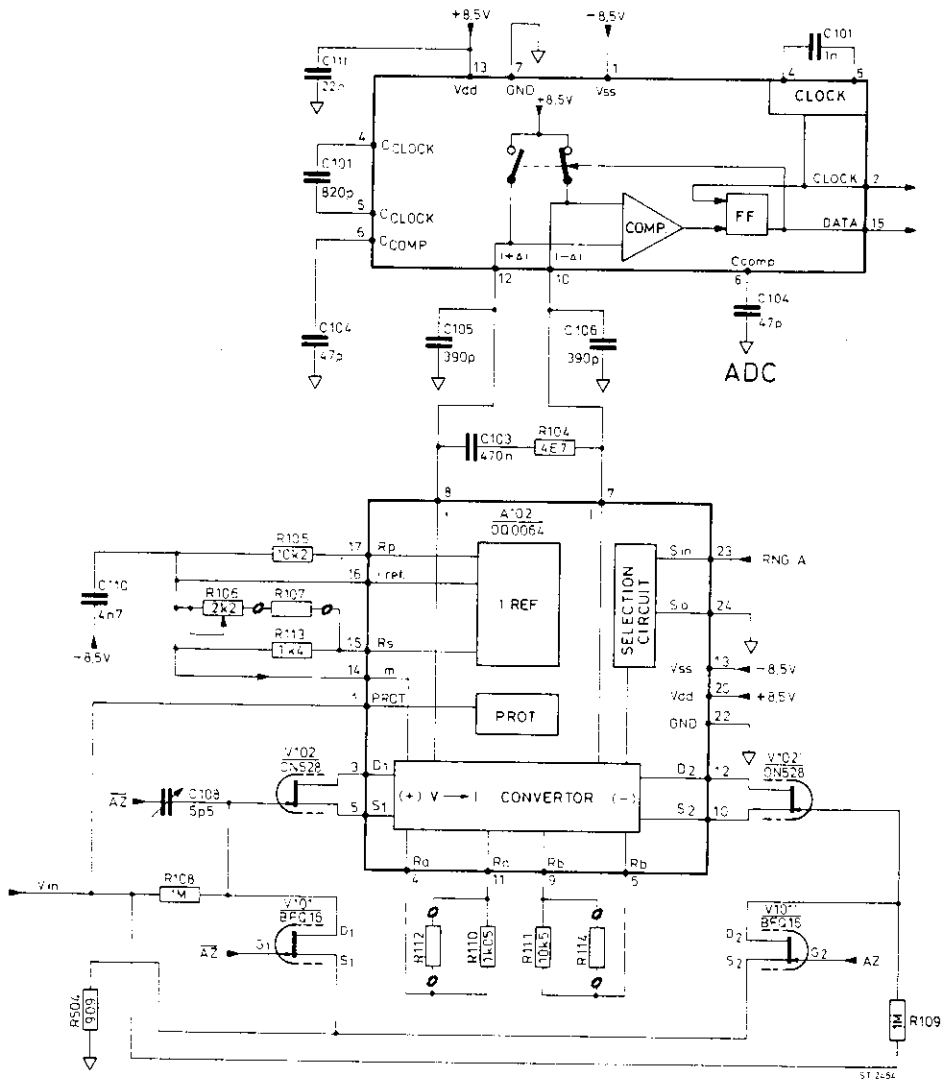

Fig. 20.
3.3.3.1. General (Fig. 20)
3.3.3.2. Voltage to current convertor OQ 0064 (Fig. 20)
3.3.3.3. ADC switching part OQ 0060 (Fig. 20)